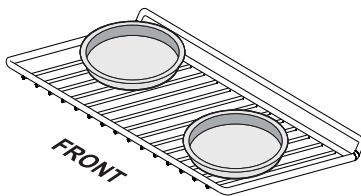

Figure 23: Baking with a single rack
- When baking using one oven rack, position bakeware as shown in Figure 23. Allow at least 2 inches (5 cm) of space between bakeware for proper air circulation.